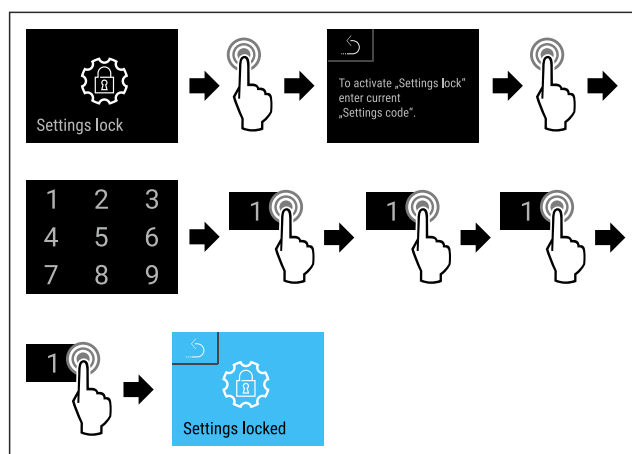

Fig. 77
- ▶ Complete steps (see Fig. 77).